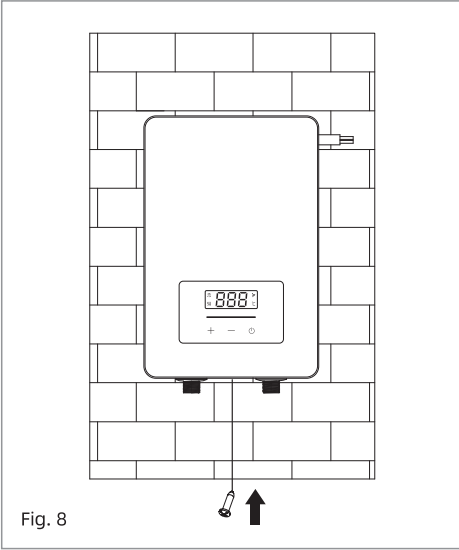

Fig. 8
6. Use a screwdriver to fix the product on the bracket (Fig. 8).